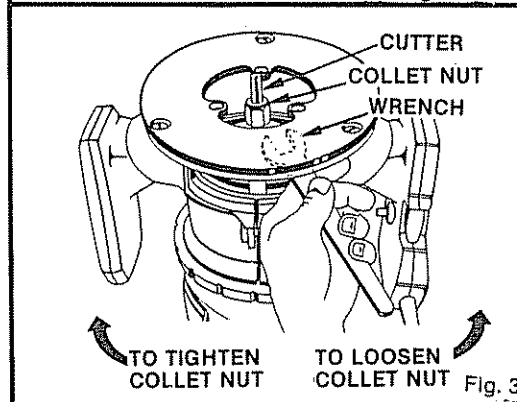

Fig. 3
4. Remove cutters by turning collet nut counterclockwise enough to allow cutter to slip easily from collet. See Figure 3. The collet is machined to precision tolerances to fit cutters with 1/4" diameter shank size.
6. Tighten the collet nut securely by turning clockwise with the wrench provided. See Figure 3. Put spindle lock back in unlock position. Otherwise the interlocking mechanism of the spindle lock will not let your router turn on.